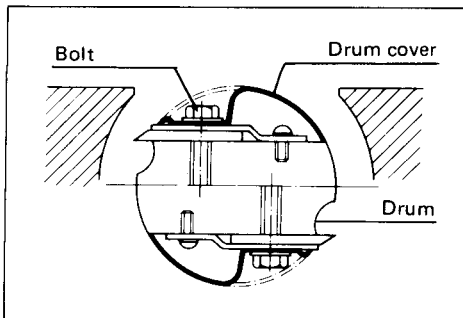
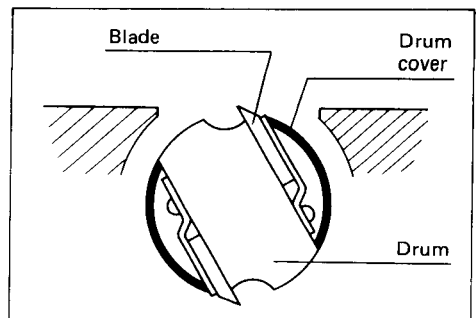

Fig. 17
Fig. 18
- The drum can be locked at the position shown in Fig. 17 or Fig. 18.
- Lock the drum at the position shown in Fig. 17 and loosen the hex bolts with the socket wrench. Remove the hex bolts and the drum cover.
- When removing the blade from the Auto-Planer, lock the drum at the position shown in Fig. 18 and push the blade out with the screwdriver.
- Lock the drum at the position shown in Fig. 18.
- Lock the drum at the position shown in Fig. 17.